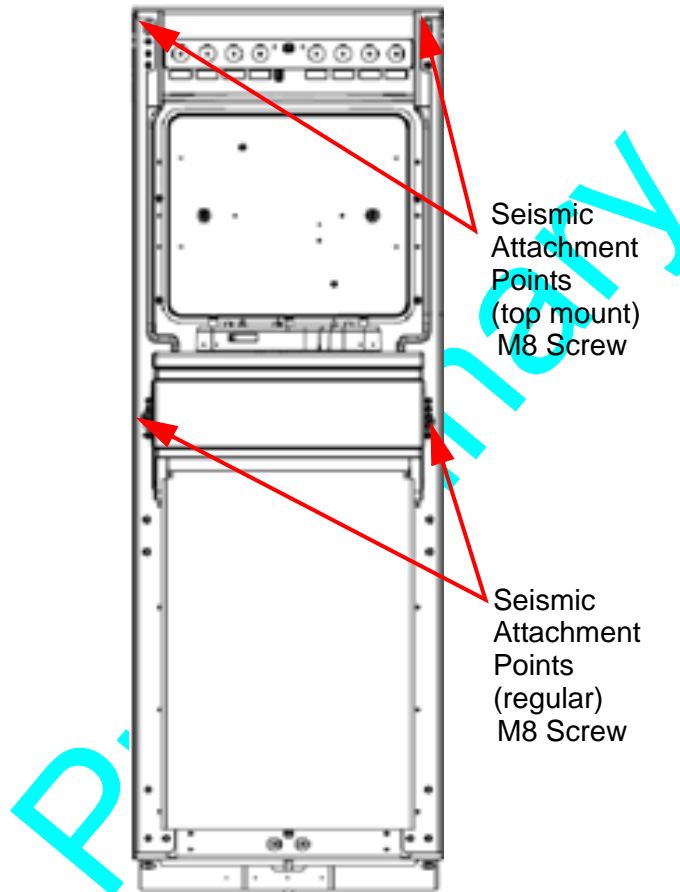

FIGURE 5 *Seismic Attachment Points*
The position of the center of gravity (CG) will be shown in the forthcoming Outline Drawing. Figure 5 shows seismic attachment points for the Falcon. Follow all installation procedures to ensure compliance with SEMI S2: Safety Guidelines For Semiconductor Manufacturing Equipment, Seismic Requirements.